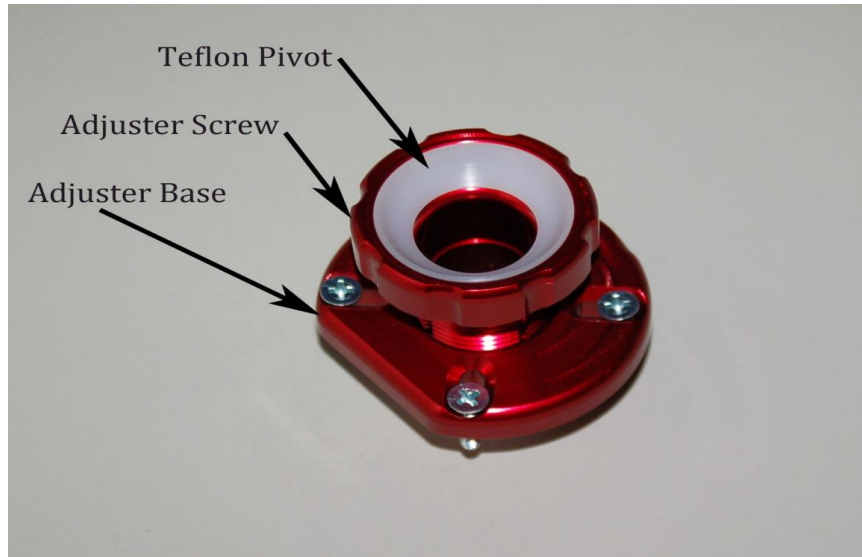

Figure 5
Step 5) Screw the McLeod firewall adjuster out until the bullet nose end of the master cylinder contacts the Teflon pivot in the center of the adjuster. Figure 5